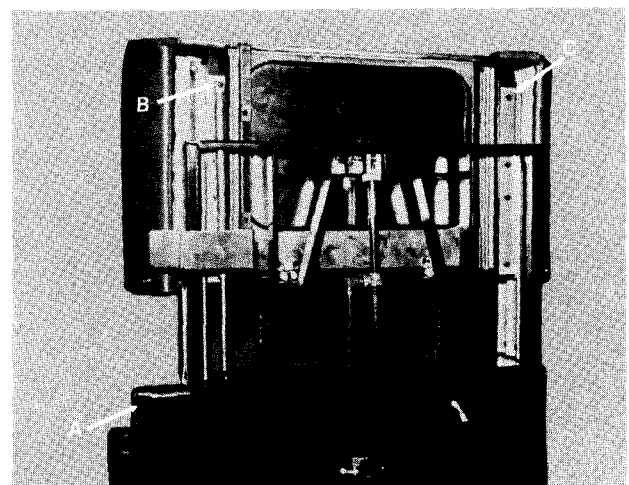

Fig. 7
- 5) On the 114 Only, remove the (4) wood screws located under the front outer edge of the seat section. Item A, Fig. 7.
- 5) On the 114 Only, install (4) wood screws under outer front edge of seat section, Item A, Fig. 7.
- 1) Remove screw Item B, Fig. 7, from lateral locking mechanism to expose (4) mounting screws.
- 2) Remove (4) mounting screws from each side of frame, Item C, Fig. 7.
- 4) Remove (4) # 10-24 x 5/8" screws from upholstered foot section.
- 1) Place footrest upholstered section on frame and align holes and install (4) # 10-24 x 5/8" screws in footrest upholstered section.
- 2) Install (4) mounting screws on each side of frame, Item C, Fig. 7.
- 3) Install screw, Item B, Fig. 7 in lateral locking mechanism.